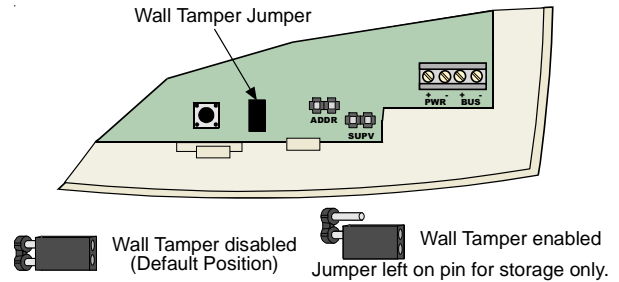

Figure 3 - Wall Tamper Jumper
- Move the wall tamper jumper as shown in Figure 3.